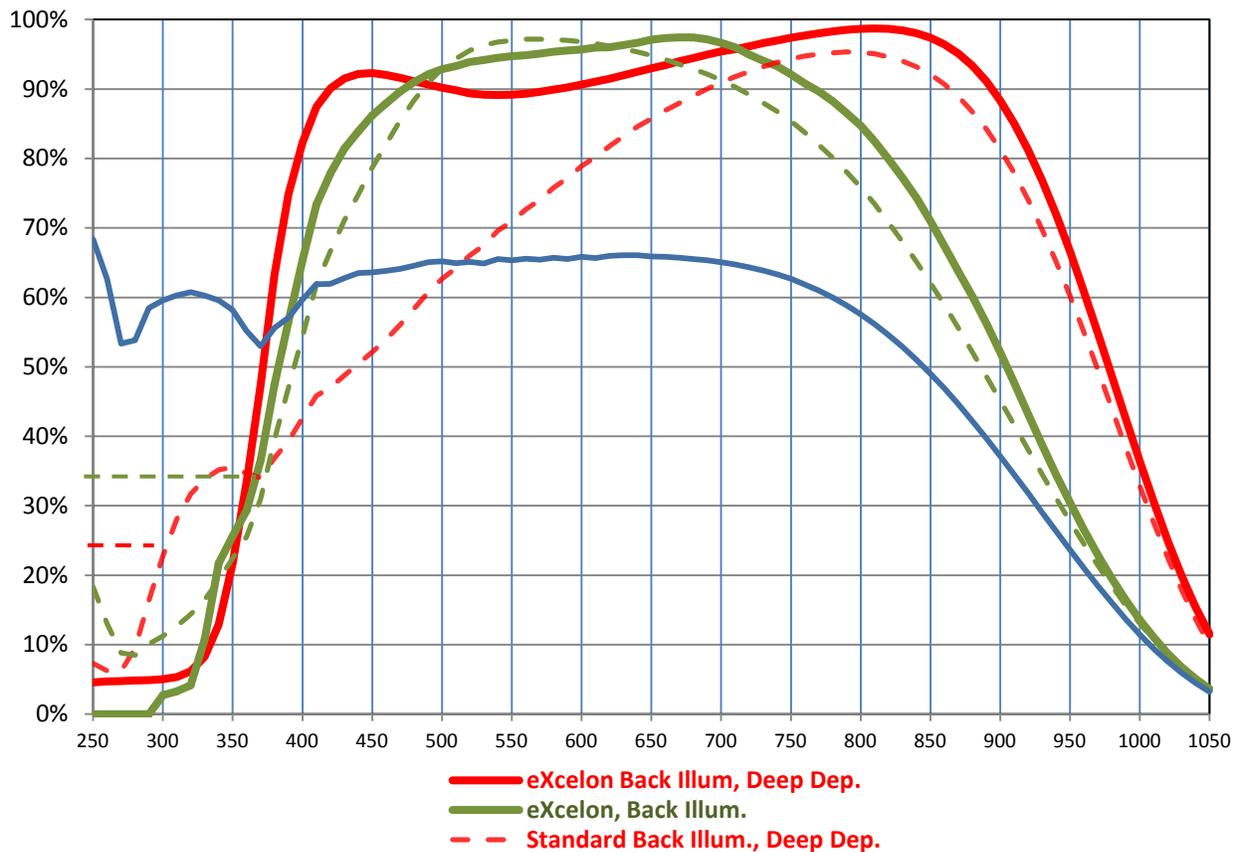
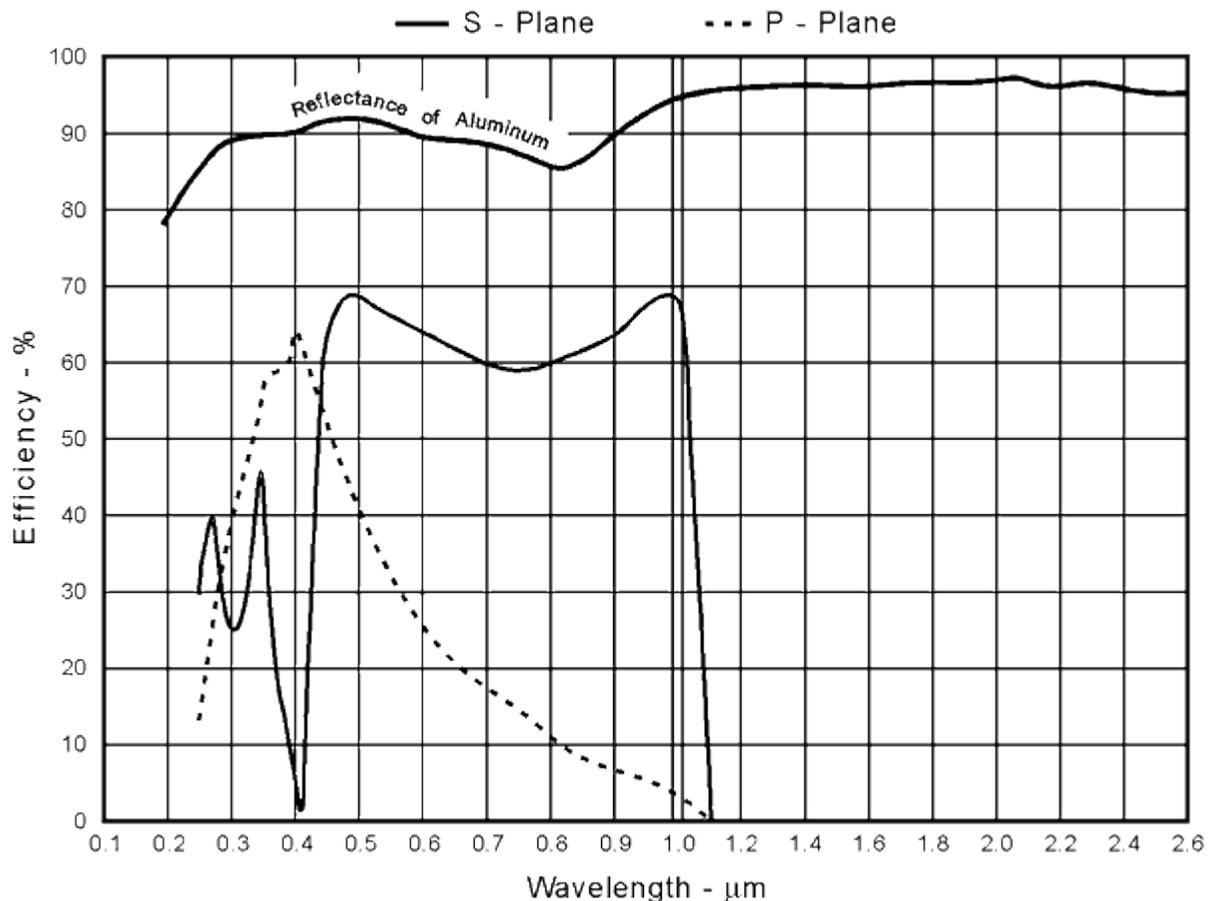

Figure 6. Quantum efficiency of selected Princeton Instruments detectors.
Figure 7. Diffraction efficiency curve of a typical holographic grating. Note the sharp features with S polarized radiation.
A. Every optical spectral measurement requires three things: light collection, light dispersal, and light detection. Light collection is accomplished by optics such as fibers, lenses or mirrors, which display chromatic aberration or spectrally-dependent absorption and reflection. Light dispersal is accomplished by prisms or gratings, each of which has its own spectral signature. Light detection is accomplished by single channel or array detectors, which are sensitive over only a portion of the spectrum. Each of these elements adds its own spectral signature to the data that you record. **See Figure 6 and Figure 7 below.**